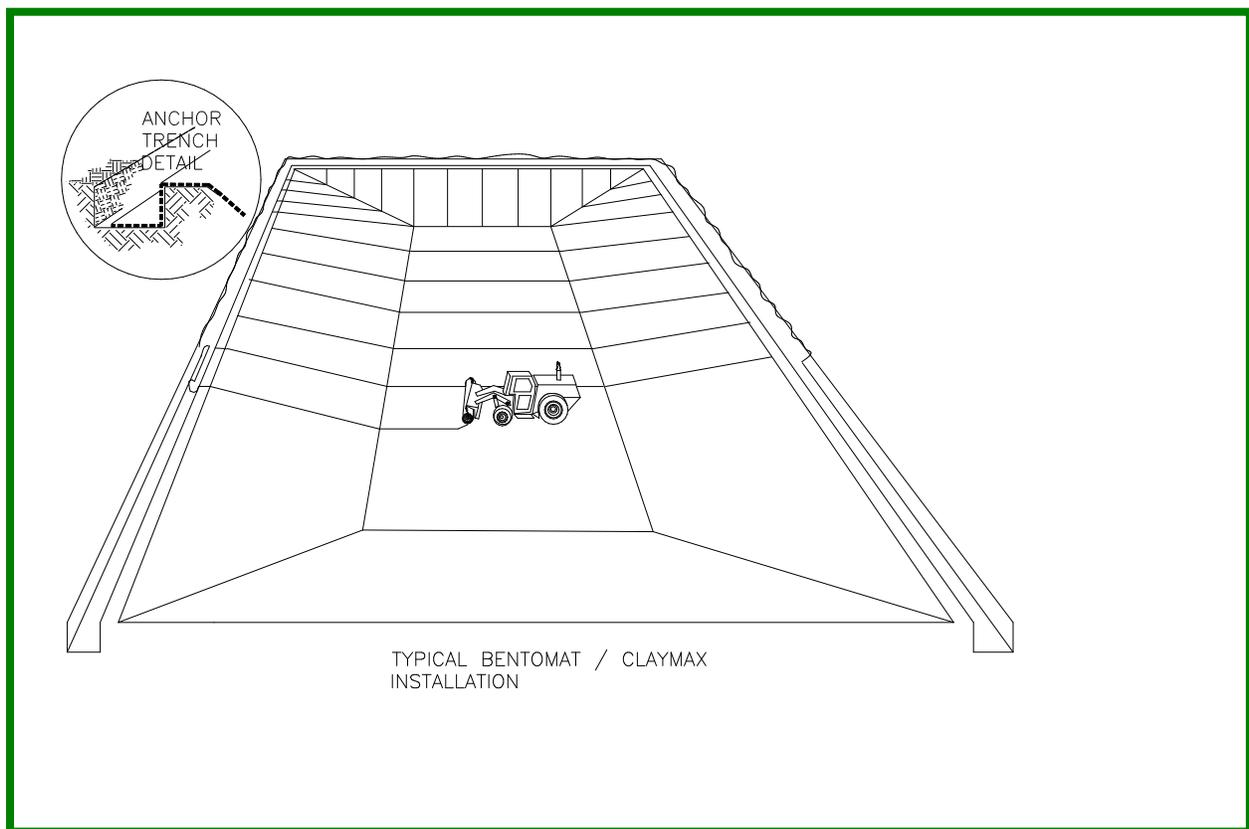

Figure 1. Typical Bentomat / Claymax installation.
- 5.2 Equipment which could damage the GCL shall not be allowed to travel directly on it. Acceptable installation, therefore, may be accomplished such that the GCL is unrolled in front of the backward-moving equipment (Figure 1). If the installation equipment causes rutting of the sub-grade, the sub-grade must be restored to its originally accepted condition before placement continues.